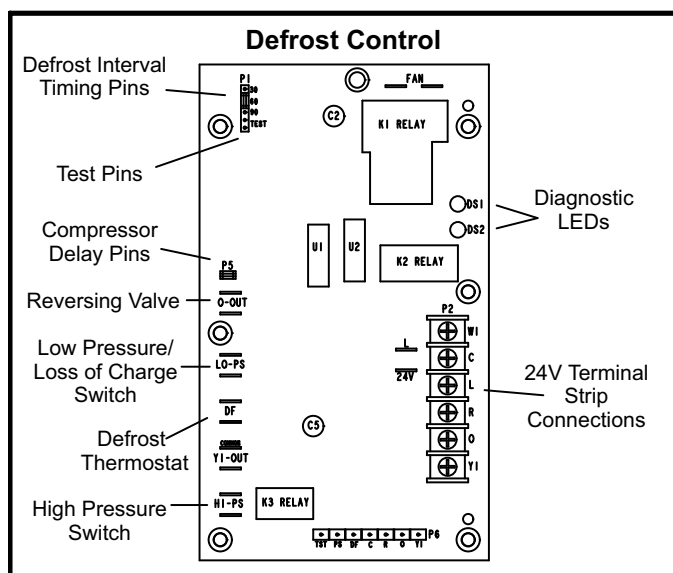

FIGURE 12
LRP14HP/DF and LRP16HP units are equipped with a defrost control that includes the combined functions of time/temperature defrost control, defrost relay, diagnostic LEDs and a low voltage terminal strip. See figure 12.
-1 Builds: the **defrost timing jumper** is factory-installed to provide a 90-minute defrost interval. **-2 Builds:** the **defrost timing** is factory set to provide a 30-minute defrost interval. If the timing selector jumper is not in place, the control defaults to a 90-minute defrost interval. The maximum defrost period is 14 minutes and is not adjustable. See figure 12 for the location of the defrost interval timing pins.